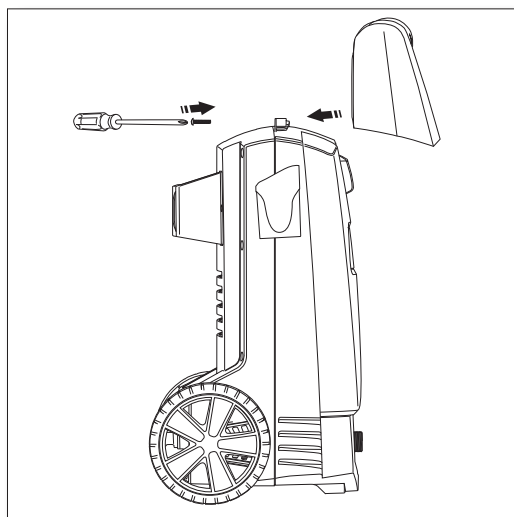

Fig. 1
- Install the handle to the **POWERPLAY™** POWER WASHER (**Fig. 1**). Place the screws in the holes provided on the **POWERPLAY™** POWER WASHER and handle, screw them together. Do not use a power screwdriver. When the screw is completely tight, give a small final clockwise twist of the screwdriver. Do not over tighten.